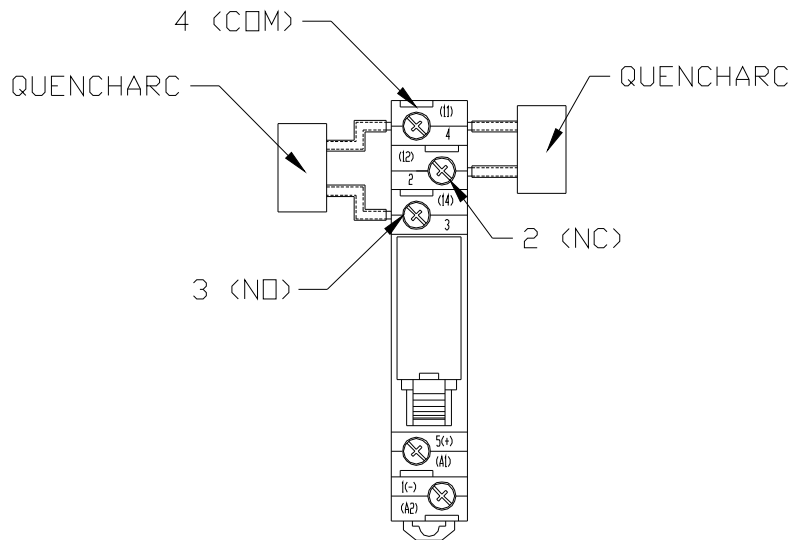

Fig. 22: Mechanical Relay Module
The Relay module is offer with three different types of relays, mechanical and solid state (AC or DC). The mechanical relay's output consists of terminal 4 - common (COM), terminal 3 - normally open (NO), and terminal 2 - normally closed (NC) (see FIG 22). The mechanical relay (OMRON G2R-1-SN) is rate for a maximum of 10A @250VAC or 10A @30VDC. Relay drive current for mechanical relay is 70mA @ 6VDC. The solid state relay's output consists of terminal 3 and 4 - normally open (NO). The solid state relay (OMRON G3R-OA202-SZN / G3R-ODX02SN-DC524) is rated for a maximum of 2A @100-240VAC / 2A @5-48VDC. Relay drive current for solid state relay is 11mA @ 6VDC. The relay control is described in Parameter Setup Section. Table 14 lists the scale signal cable wire color control for each relay module.